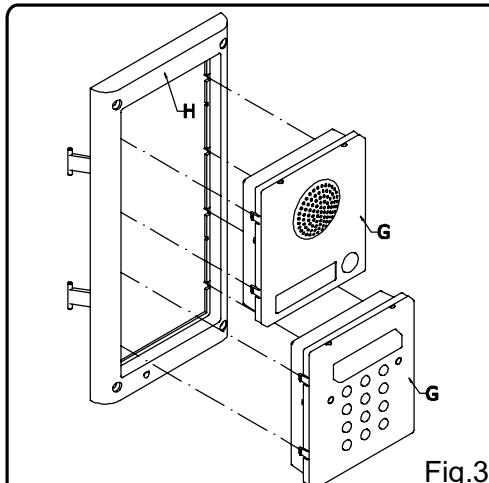

Fig.3
- Before the installation of the module support frame, hook the modules **G** to the support frame **H** as shown in figure 3;